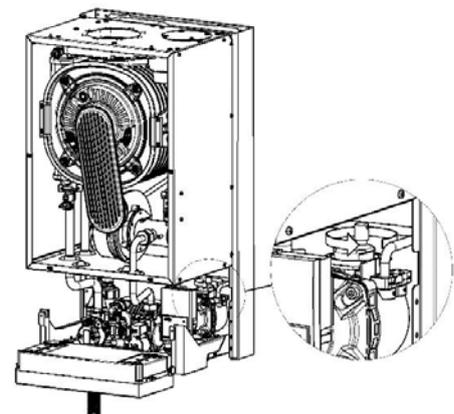

Fig. 3
7. Loosen the stopper on the automatic air-vent of the pump. In order to protect the pressure transducer from water, point the outlet of the stopper to the right (Fig. 3).